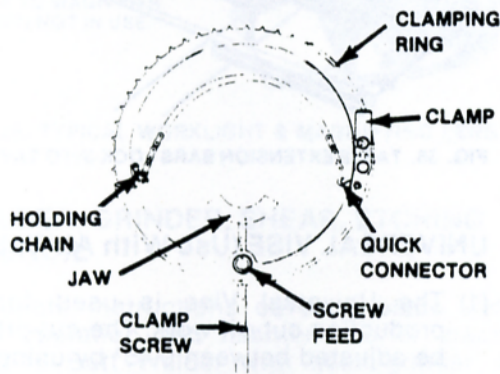

FIG. 31. FIXTURE CLAMPS STOCK FOR CONTOUR SAWING.
- (1) This air-powered worktable attachment is a sprocket-toothed unit with capacity to hold 8-inch (205 mm) by 11-inch (280 mm) rectangular, or 11-1/4-inch (285 mm) diameter stock. See Fig. 31.